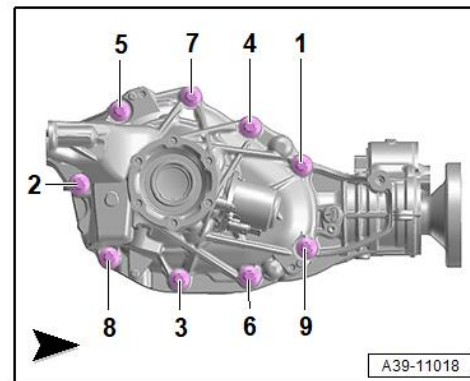

Figure 25. Tightening sequence.
18. Install and torque the case bolts as follows and in the sequence shown (Figure 25):